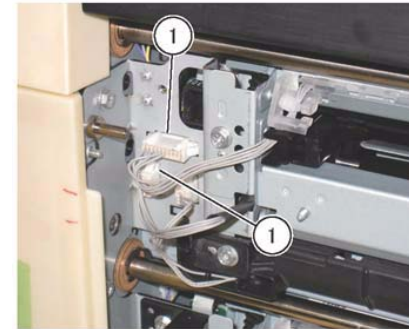

Figure 2 Disconnect Connectors
6. Disconnect the connector. (Figure 2)